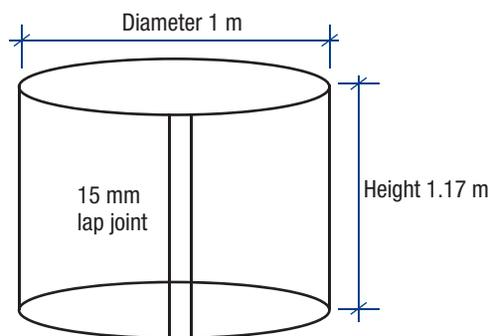

Figure 12.71 Tank to be fabricated
- The rainwater tank is to be made to the measurements shown in Figure 12.71: